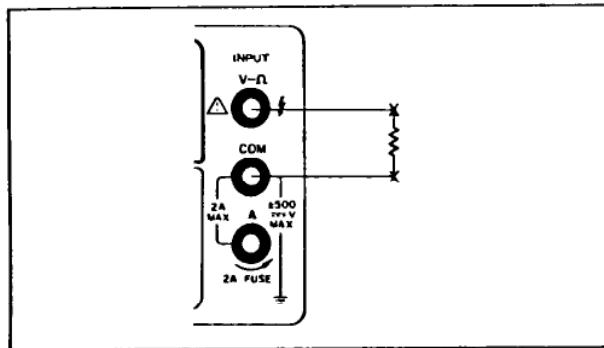

Figure 3-11. Resistance Measurement
- Connect test leads from the Multimeter $V\Omega$ (+) and COM (-) terminals to the resistance under test as shown in Figure 3-11.